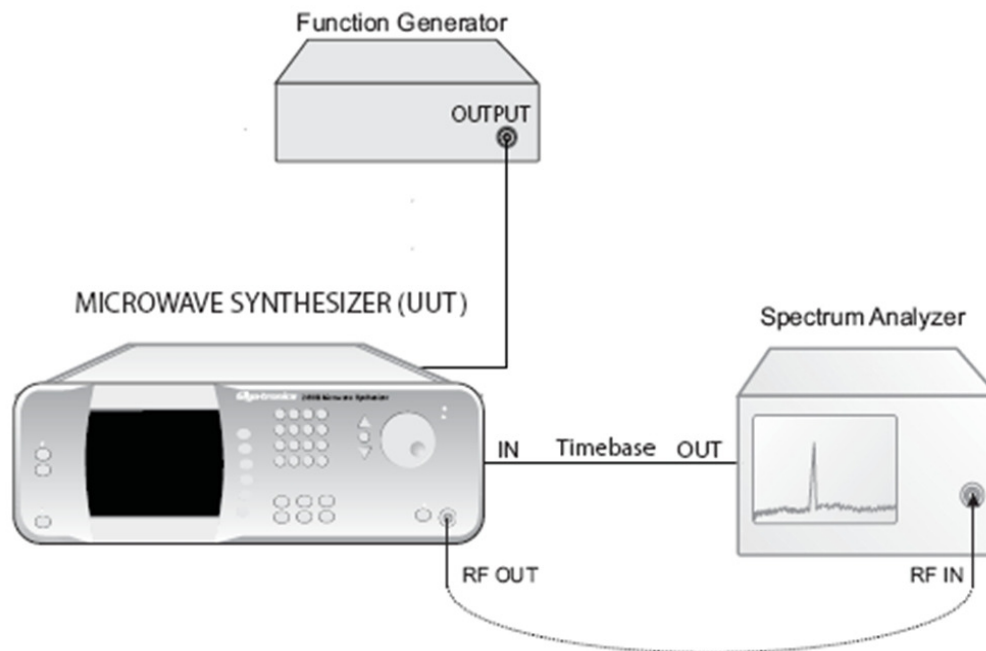

Figure 53: Frequency Modulation Accuracy and Deviation Bandwidth Test Setup
2.	Connect the equipment as shown in Figure 53 on page 118. <ul style="list-style-type: none"> <li>Connect the function generator to FM/φM IN on the rear of the 2500B</li> <li>Connect the spectrum analyzer timebase output to EXT REF IN on the rear of the 2500B.</li> </ul>
2.	Connect the equipment as shown in Figure 53 on page 118. <ul style="list-style-type: none"> <li>• Connect the function generator to FM/φM IN on the rear of the 2500B.</li> <li>• Connect the spectrum analyzer timebase output to EXT REF IN on the rear of the 2500B.</li> </ul>